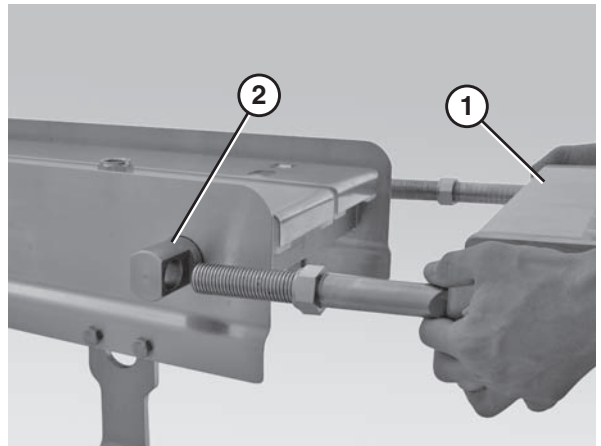

Figure 74
2. Slide the nose bar tail assembly (**Figure 74, item 1**) out of the take up blocks (**Figure 74, item 2**).